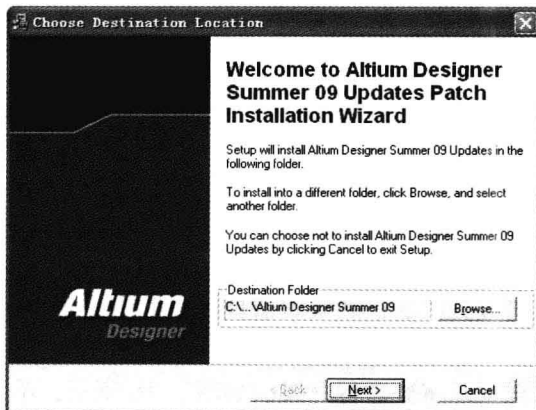

图 1-10 升级向导对话框
(2) 选中 I accept the terms of the End-User License agreement and wish to CONTINUE 接受协议，弹出升级向导对话框，如图 1-10 所示。